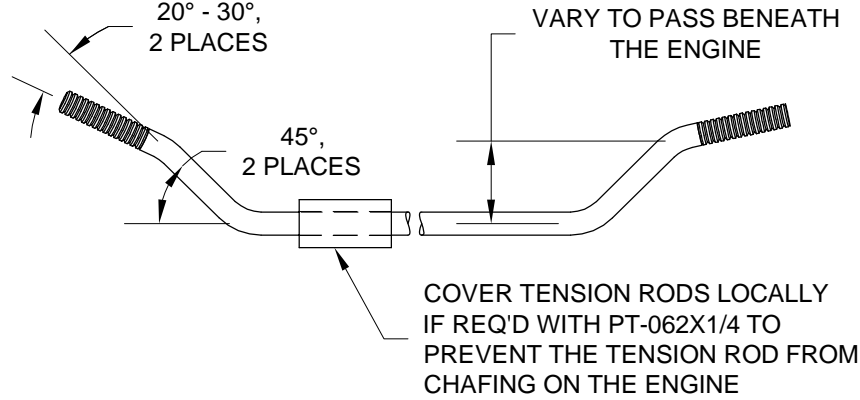

**FIGURE 1: FABRICATING THE INBD TENSION ROD
Step 6: Run the ignition wires through the holes in the CB-705A Cylinder 4 Aft Baffle and the ignition wire harness seal per the callouts in Figure 2. Repeat this step for the right ignition wires running through the CB-707A Right Aft Case Baffle as shown in Figure 1.
Step 1: Cut two lengths of SSP-120 Stainless Pin 9 inches long to create two CB-700D Inbd Tension Rods. Bend each inbd tension rod to fit around the engine. Figure 1 is full scale and can be used as a template for a starting point. Note the inbd tension rods may be different on the right and left sides of the engine.
Step 2: Thread 6-32 both ends of each CB-700D Inbd Tension Rod. Do not extend the threads into the bends in the inbd tension rods. See Figure 1.